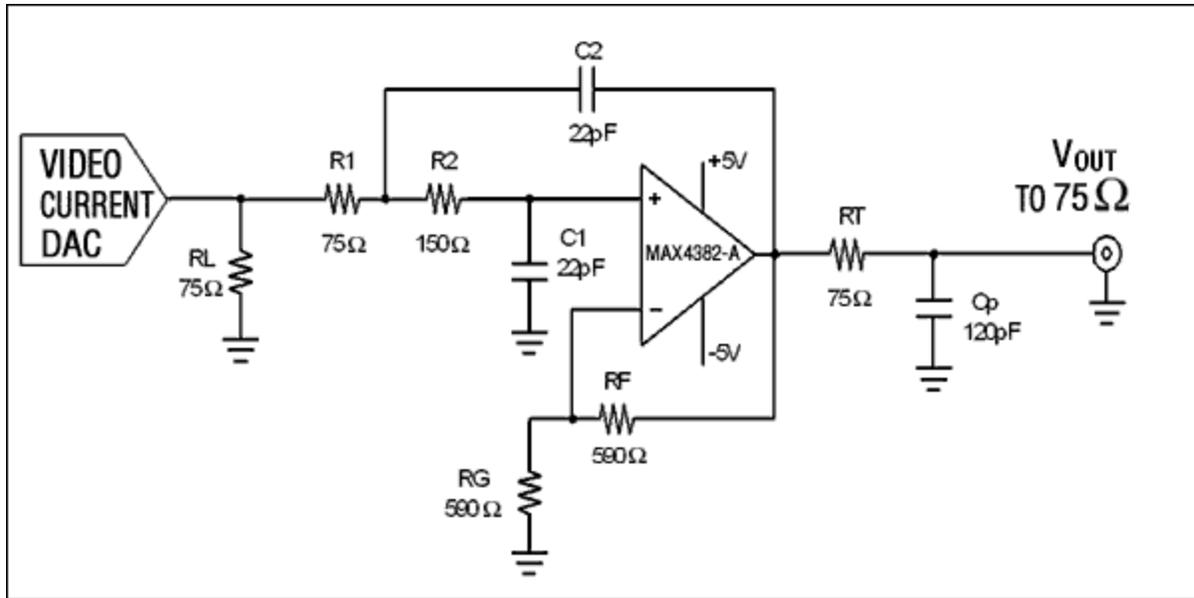
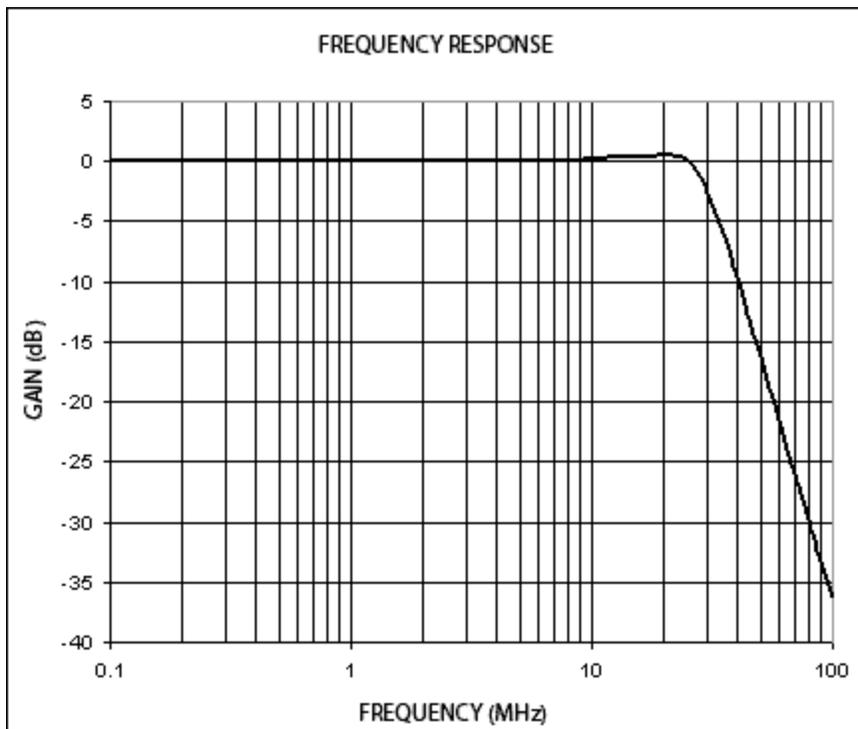
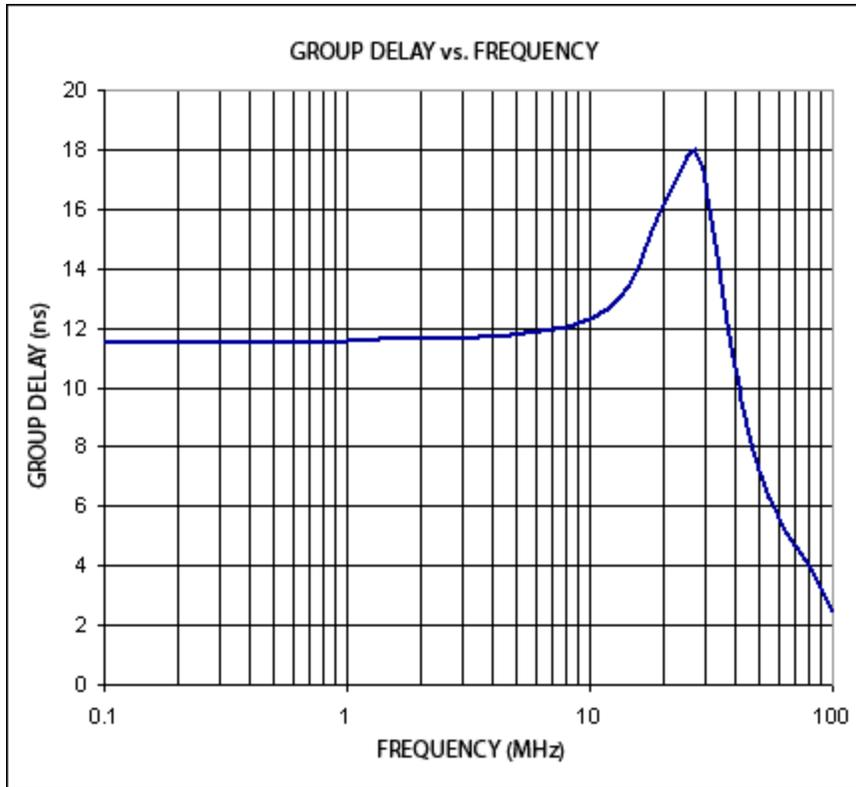

Figure 1. The MAX4382 in a three-pole, sallen-key, butterworth lowpass filter.
Figure 2. Gain vs. frequency of the circuit.
Figure 3. Group delay vs. frequency of the circuit.
Figure 1 shows a one-channel, dual-supply configuration incorporating the MAX4382. It is a three-pole, Sallen-Key Butterworth lowpass filter, in which the current DAC generates the video signal, and the resistor (RL) sets the amplitude. With the MAX4382, the RL, R1, R2, C1, and C2 form a two-pole, Sallen-Key lowpass filter having a gain of 2. The driving load (75Ω) at the output, plus RT and Cp, sets the real pole. In the **Figure 1** circuit, the -3dB bandwidth is about 30MHz (**Figure 2**). The attenuation is approximately 14dB at 44.25MHz, and 28dB at 74.25MHz. The group delay is roughly 6.5ns (**Figure 3**). If the current DAC load is different than 75Ω, just use the following relationship to set the value of R1: $R1 + RL = 150\Omega$. For RL greater than 150Ω, C1, C2, R1, and R2 will need to be adjusted.